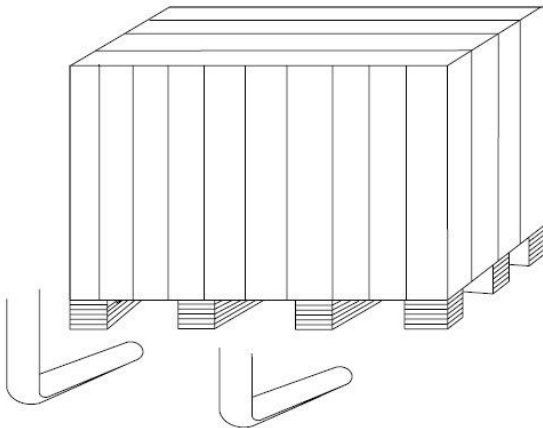
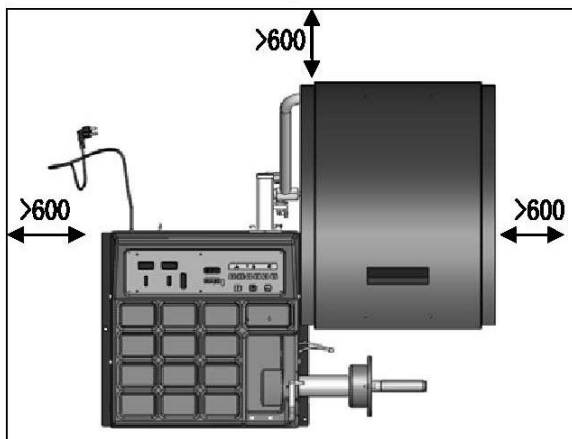

Fig. 6
Fig. 7
4.1.1 After being sure that the package of your machine is perfect, you can carry the wheel balancer to the installation site. (Fig. 6). The choice of the installation should comply with the following requirements. The ambient temperature is 0°C-50°C and the RH ≤85%. And the installation site as shown in Fig. 7.